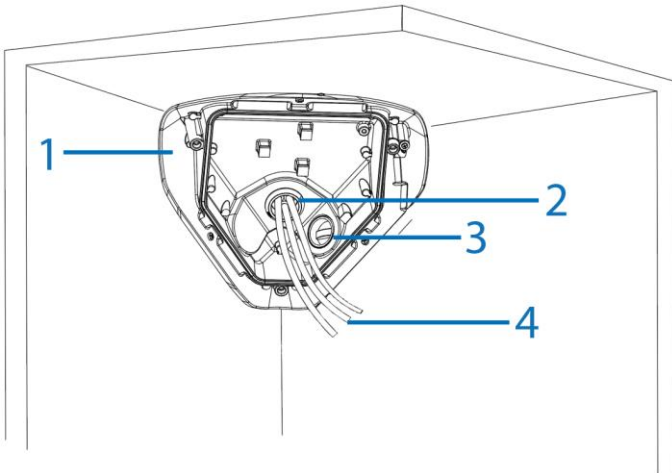

Figure 6
2. Cut out a 25mm cable hole on the ceiling, close to the corner and pull all power cables through the ceiling hole, and then remove the power cable rubber insert (2) (Figure 6) on the camera base.
- Remove the cable side entry insert (3) (Figure 6) on the camera base if you are routing the cables through the wall.
3. Place the camera base (1) (Figure 6) fully into the wall / ceiling corner and using a pen / pencil, add two markings on the walls and one on the ceiling as per the three holes on the camera base.
6. Insert the camera base (1) (Figure 6) up to the corner:
- a. if the power cables are routed through the ceiling, then insert the cables (4) (Figure 6) through the rubber insert cable hole (2) (Figure 6).
- a. If the cables are routed through the wall, then insert the cables through the cable side entry hole (3) (Figure 6) on the camera base.